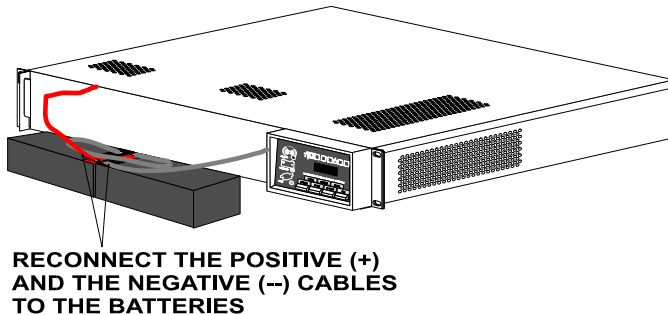

Figure 7
203. Remove the batteries from the unit. Remove and save the battery cable connecting the two (2) batteries in series. (See Figure 7.)